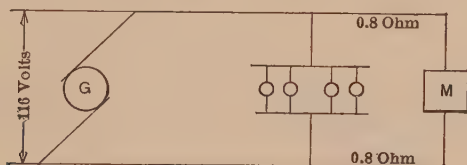

FIG. 74.
**Prob. 24.** In Fig. 74, each lamp takes 2 amp. The motor takes 10 amp. The voltage across the lamps must be 110 volts.
**Prob. 25.** In Fig. 74, assume the resistance of the line wires from the generator to the lamps to be 0.16 ohm each, and the voltage across the lamps to be unknown. What will be the voltage across the motor when the lamps are not running?